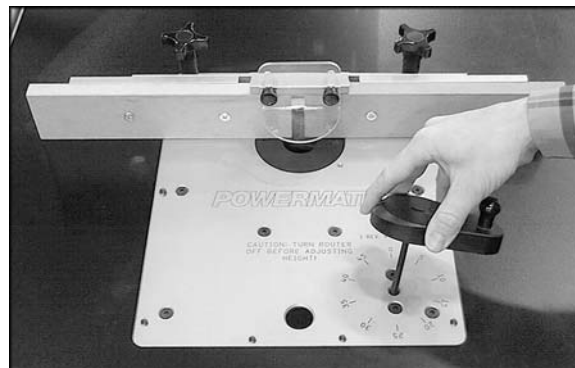

Figure 16
2. With the router bit installed, place the adjustment handle into the access port in the main plate (Fig. 16).